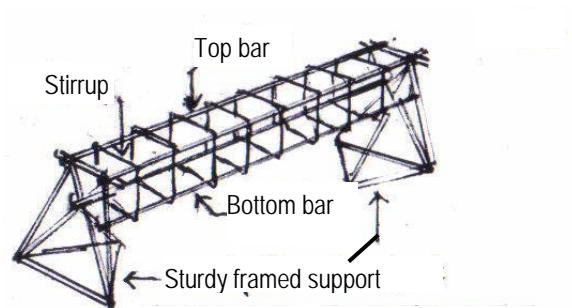

Fig 9B - **Fabricating reinforcements**
A practical method of reinforcement cage fabrication is by using two (02) trestles to support the two main top bars, then feeding stirrups and bottom bars (See fig. 9B)